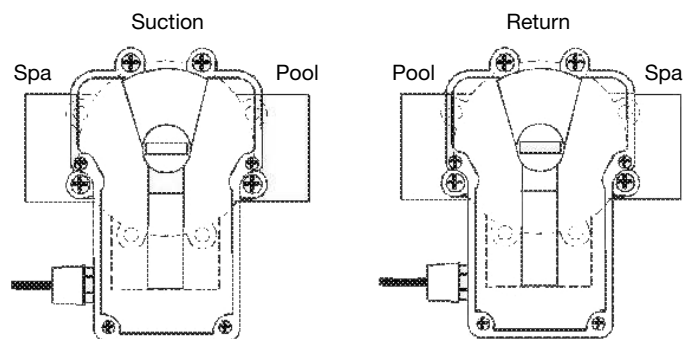
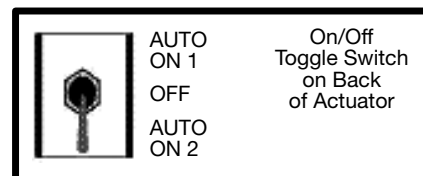

FIG. 4. Synchronization Example
FIG. 5. Toggle Switch
FIG. 4 represents the valves and actuators for a pool/spa combination. The suction valve is plumbed the opposite of the return valve. In this case, activating the actuators turns one to the spa, while the other is turning to the pool. The actuators need to be synchronized. To synchronize the actuators, flip the toggle switch found at the rear of the unsynchronized actuator to the opposite position. See FIG. 5.
1. At the rear of the actuator, flip the toggle switch until the desired rotation of the valve is reached. See FIG. 5.
1. At the rear of the electronic valve actuator, flip the toggle switch to the center (OFF) position. See FIG. 5.